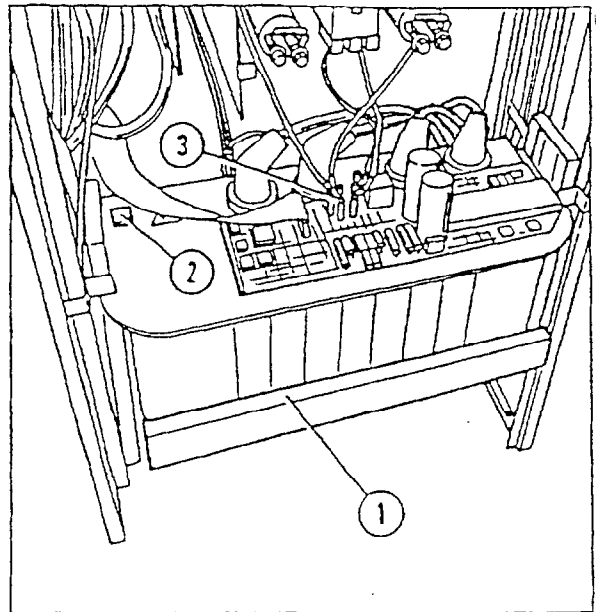

Fig. 3
- Move out holder for the H1 (1/Fig.3).
- Connect the ground wire cable coming from the protective ground bus to H1.  (2/Fig.3).
- Attach the leads from the inverter modules according to their designation (3/Fig.3):